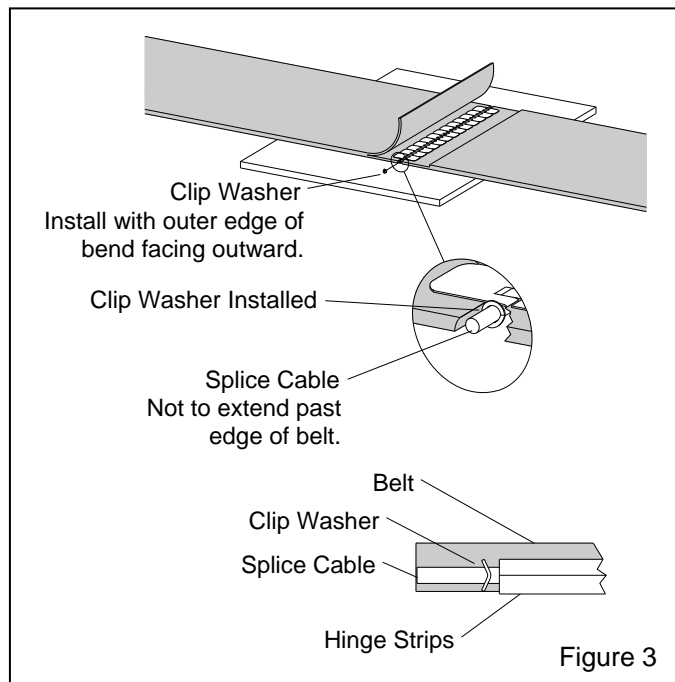

Figure 3
4.3.6 Secure Splice Cable with Clips, Refer to Figure 3.
4.3.6.1 Refer to Figure 3 and align the cable ends with the sides of the belt. Slide one cable clip washer over one end of the splice cable. Note: The clip is bent; install it with the outer edge of the bend facing out, away from the belt. Crimp the clip with a long nose plier in the direction of the bend. Crimp only enough to grip the cable to prevent it from sliding.